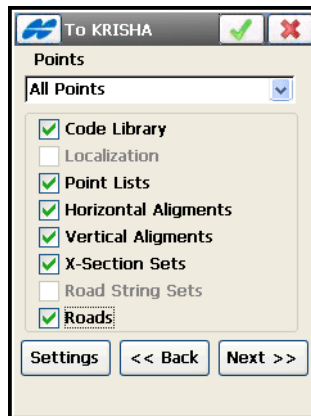

Figure 4-3. Export To Job
On the *To <Job name>* screen (Figure 4-3), select the data that you want to have exported along with the point data.
- **Next** – available if other data is chosen to export on the *To Job* screen (Figure 4-3 on page 4-3). Opens the next screen to select other objects (horizontal alignments, vertical alignments, roads or x-section sets) which are similar to the *Point List to Export* screen.